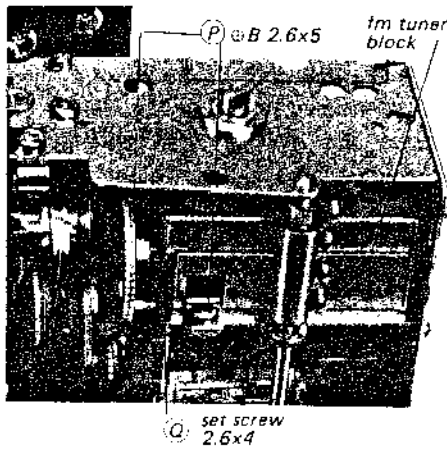

Fig. 2-14
2. Remove the two screws (⊕B 2.6x5) marked (P) in Fig. 2-14.
3. Loosen the two dial-tuning gear set screws (2.6x4) marked (Q) in Fig. 2-14.